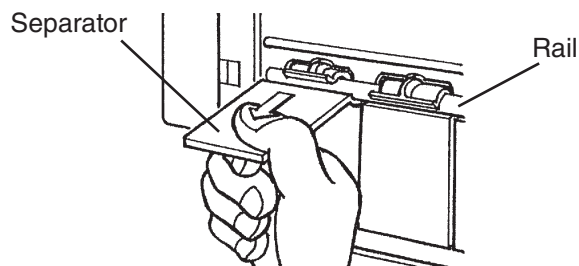

Fig. 46
16. Hook each separator onto the rail, then pull it hard towards you until it locks into place. See Fig. 46.